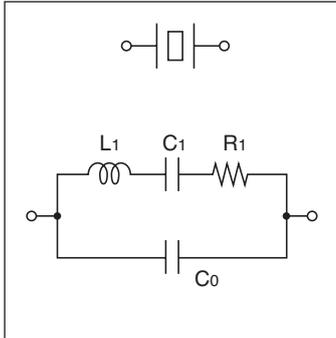

Figure 9
- The drive level of a crystal unit is shown by the level of the operating power or the current consumption (see Figures 9, 10, and 11).